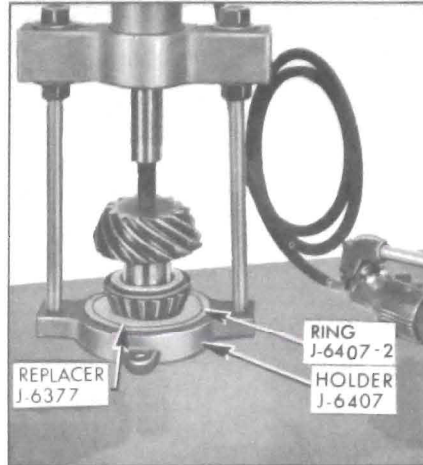

Figure 6-21—Installing Rear Pinion Bearing
3. Place original shim against head of pinion and install rear pinion bearing using Replacer J-6377 and Holder J-6407 with Ring J-6407-2 in a press or as shown in Figure 6-21.